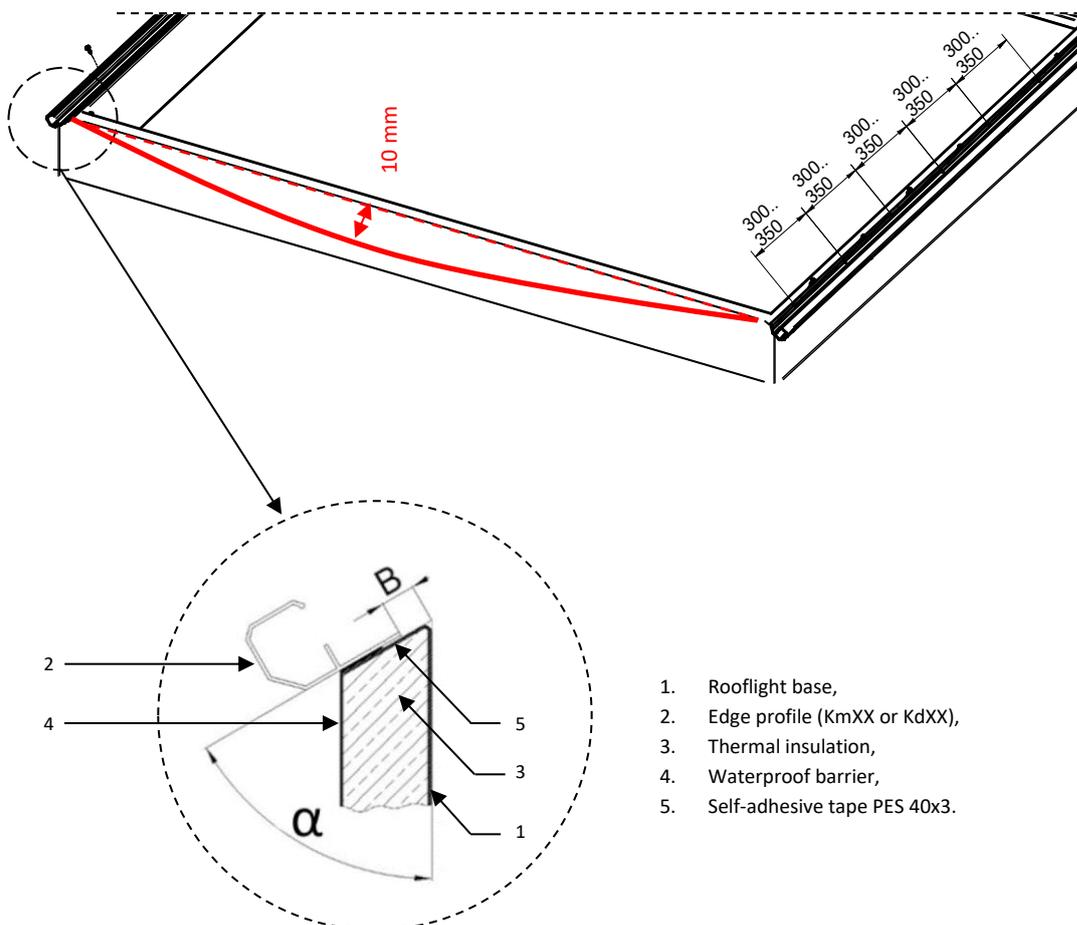

Figure 25 Installation of edge profiles according to the attachment to the installation manual
- Apply self-adhesive tape PES 40x3 to the assembled and insulated base, and then fix the edge profiles using self-drilling screws $\varnothing 6.3 \times 32$ mm keeping the distance between the screws 300 – 350 mm, and positioning them so that at least 2 screws fall out between the holes for the screws tightening the pressure profiles. The position of the edge profile in relation to the base should be as shown in (Figure 25 Installation of edge profiles according to the attachment to the installation manual). The correct B dimension can be obtained by laying the edge profiles parallel to each other along the entire length. The B dimension can be obtained by fixing the position of the edge profiles with the tympanum panel. It is very important that the edge profiles are arranged parallel to each other i.e. the distance between them is constant (Figure 24 Layout of the edge profiles following the principle of parallel orientation).